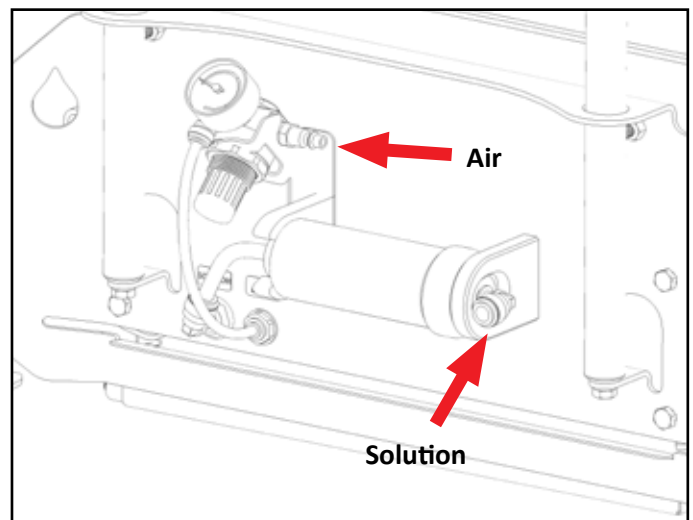

Fig. 6.3: Solution and air line quick fit connections
5. Connect compressed air line to the air regulator on the side of the unit (50 PSI recommended) [Figure 6.3].